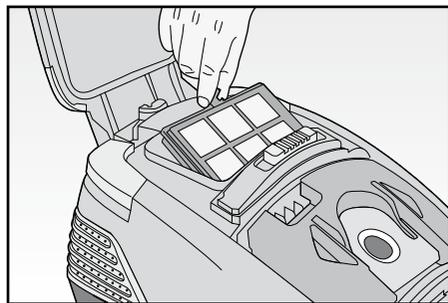

Fig. 10
- Lift the filter out from its compartment (FIG. 10) and shake it vigorously to clean it. If the filter is extremely soiled, wash it with lukewarm soapy water and leave it to dry. **NEVER** use artificial means to dry the filter. To replace the filter, contact an Assistance Centre.